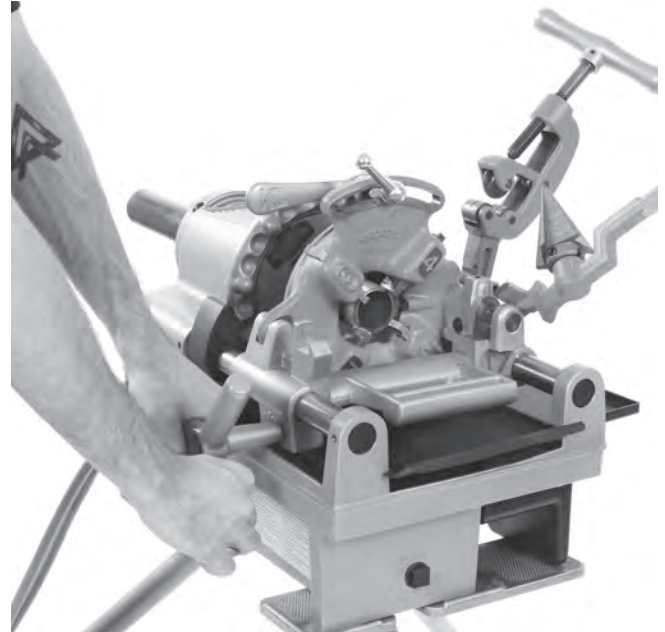

Figure 13 – Threading Pipe
3. Move the ON/OFF (I/O) switch to the ON (I) position.
4. With both hands, grasp the carriage handwheel. *See Figure 13.*
10. Move the ON/OFF (I/O) switch to the OFF (O) position.